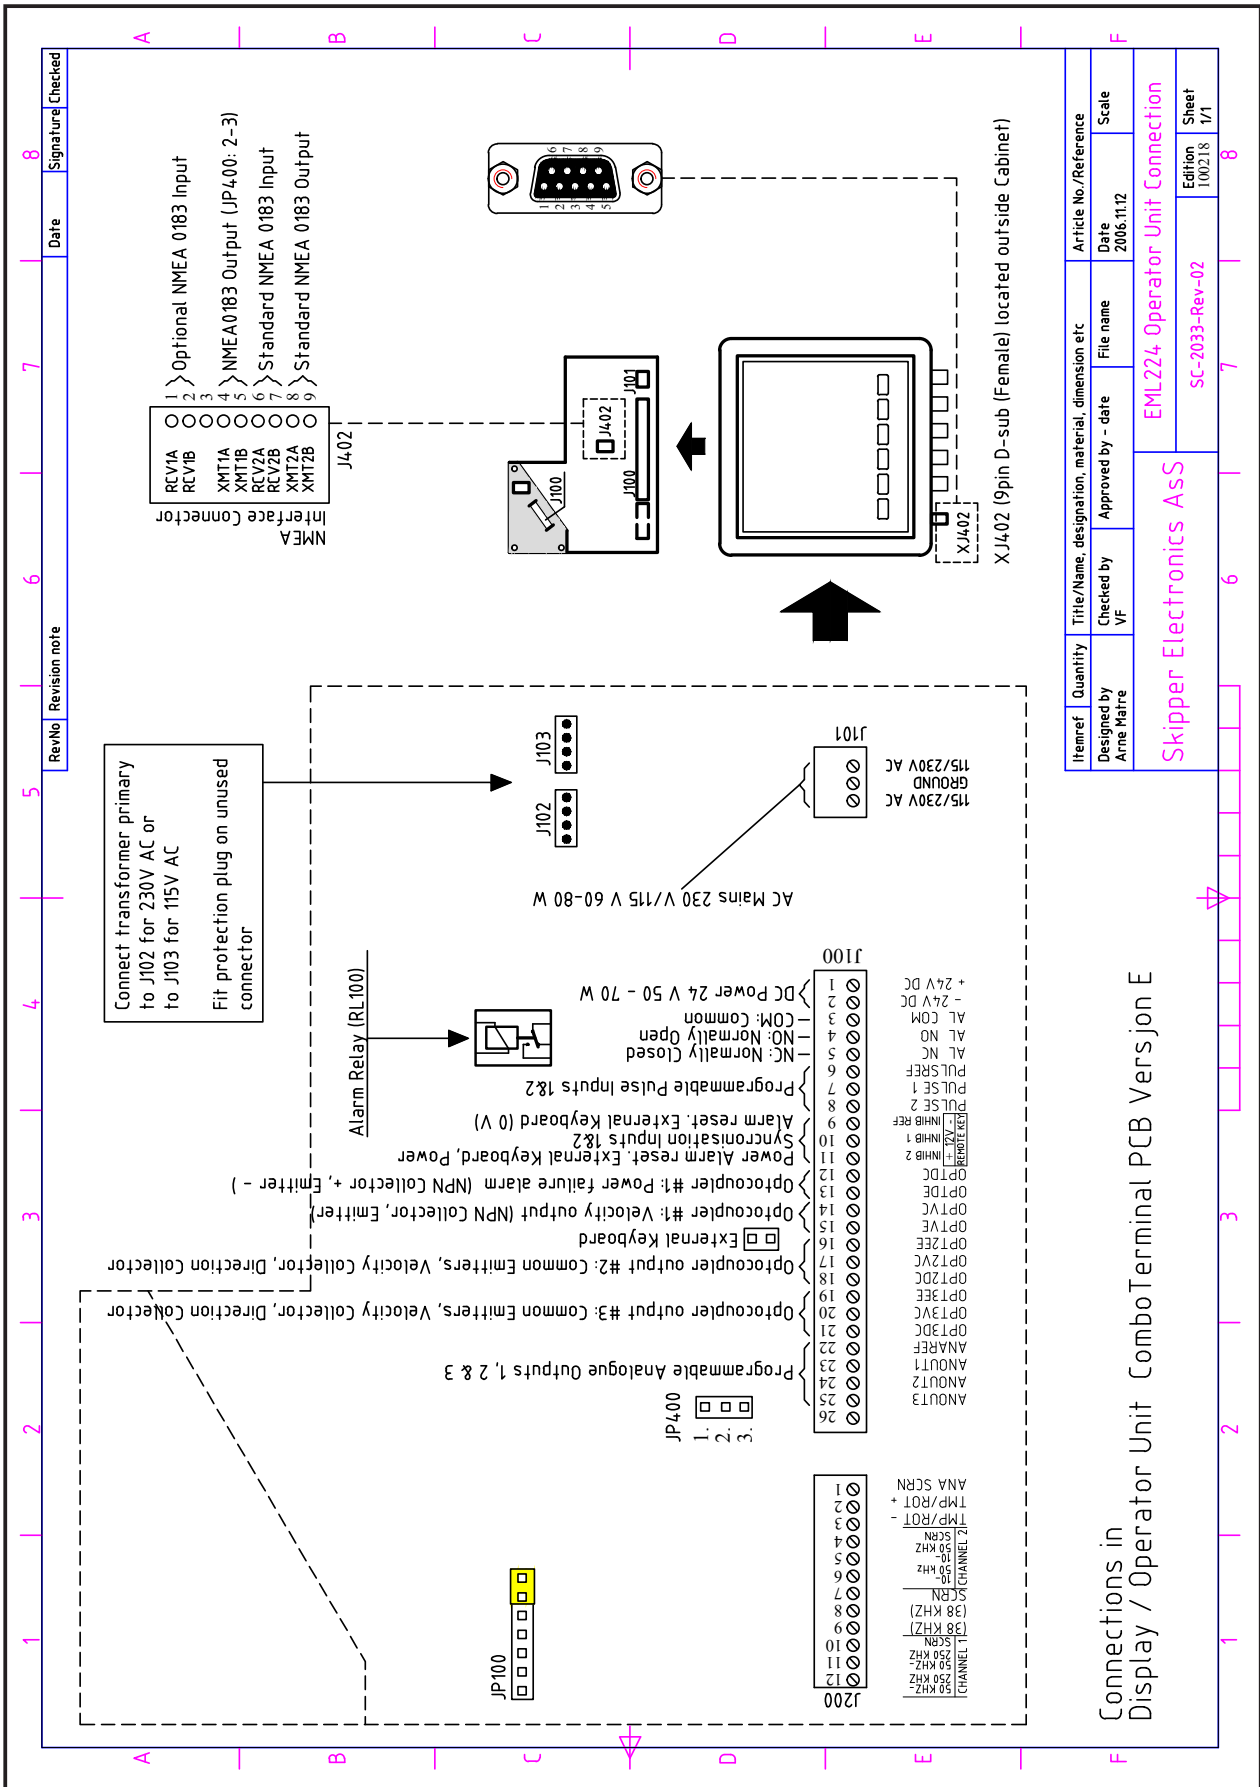

Fig. 11.2. Terminal board connections
- Fig. 11.2 Terminal board connection